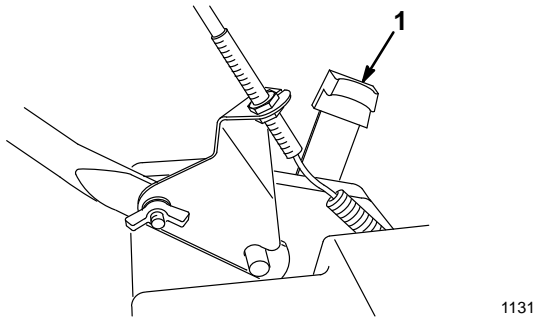

Figure 20
1. To change cutting height pull wheel height adjustment lever toward wheel and move to the desired position (Fig. 20).